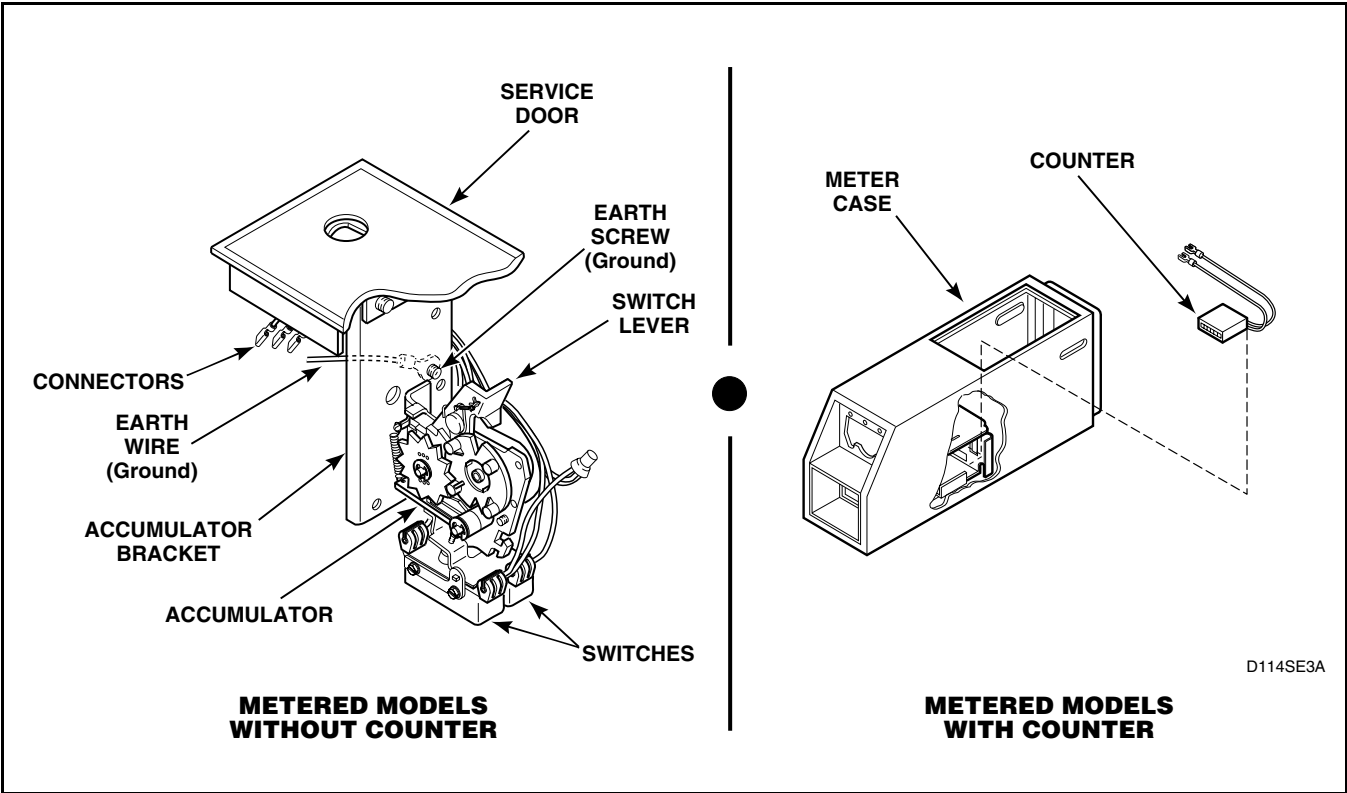

Figure 8
- c. **Metered models:** (Refer to *Figure 8*)
- (1) Insert key in service door lock on top of meter case and unlock door.
- (2) Lift rear of service door approximately 45° off meter case to disengage notched tabs with internal rib at top of meter case.
Refer to *Figure 8*